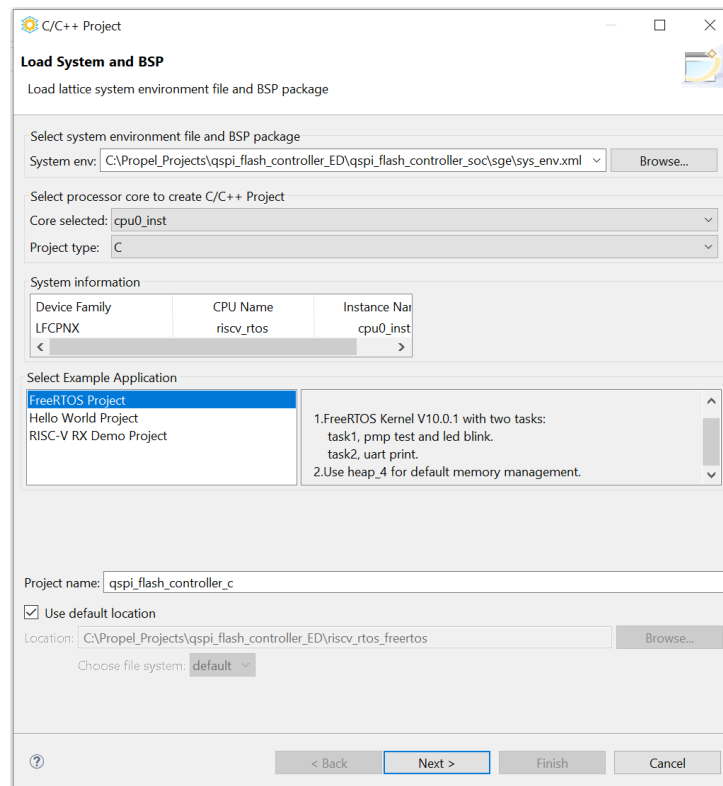

Figure 6.8. C/C++ Project Load System and BSP
3. Generate a new Lattice C/C++ project by selecting **File > New > Lattice C/C++ Project**. The **C/C++ Project Load System and BSP** window opens as shown in Figure 6.8. Update the **Project name** field. Then, click **Next** followed by **Finish**. For this example design, the FreeRTOS Project template is used.